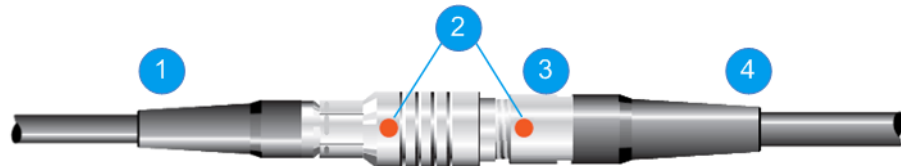

Figure 4-2: Connecting the host connector
- ▶ Pull at the host connector (Figure 4-2 (3)) until it disconnects from the connector of the USB adapter.